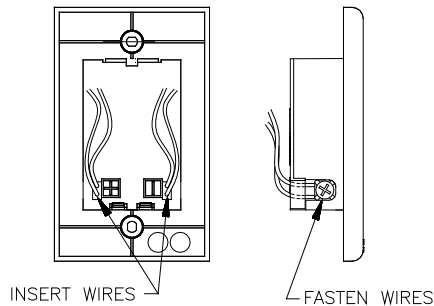

Figure 4
- Connect the 2 field wires to each screw terminal (in-out wiring) and dress the 2 wires through the slot as shown in Figure 4 (polarity must be observed).